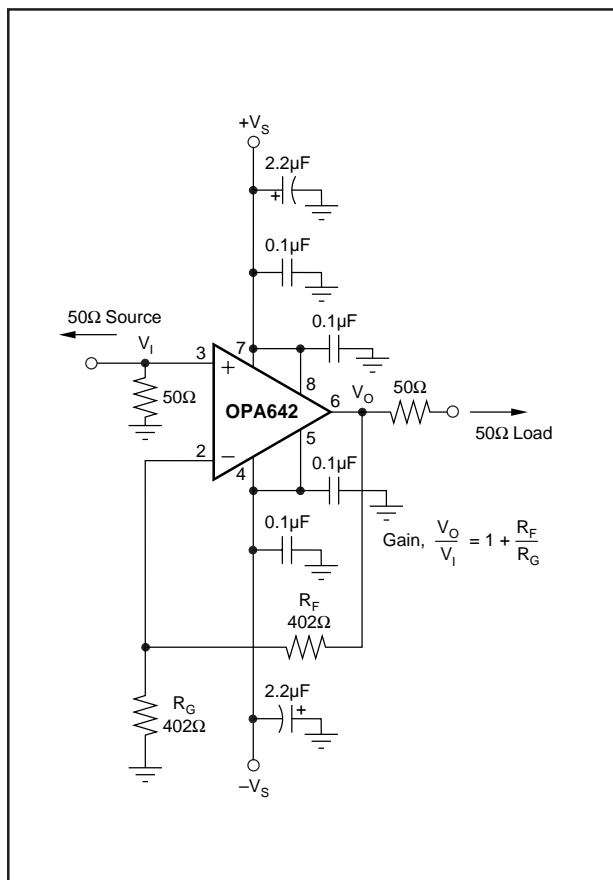
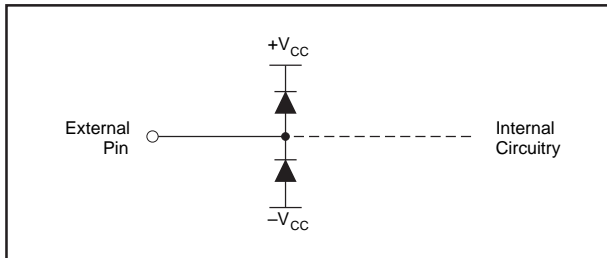

FIGURE 1. Gain of +2, High Frequency Application and Characterization Circuit [P or U Package].
FIGURE 9. Internal ESD Protection.
The OPA642's combination of speed and dynamic range is easily achieved in a wide variety of application circuits, providing that simple principles of good design practice are observed. For example, good power supply decoupling, as shown in Figure 1, is essential to achieve the lowest possible harmonic distortion and smooth frequency response. Proper PC board layout and careful component selection will maximize the performance of the OPA642 in all applications, as discussed in the remaining sections of this data sheet.
Figure 1 shows the gain of +2 configuration used as the basis for most of the Typical Performance Curves. Most of the curves were characterized using signal sources with 50Ω driving impedance, and with measurement equipment presenting 50Ω shunt load impedance. In Figure 1, the 50Ω shunt resistor at the  $V_I$  terminal matches the source impedance of the test generator, while the 50Ω series resistor at the  $V_O$  terminal provides a matching resistor for the measurement equipment load. Generally, data sheet specifications refer to the voltage swing at the output pin ( $V_O$  in Figure 1). The 100Ω load from the series and shunt matching resistances, combined with the 804Ω total feedback network load, presents the OPA642 with an effective load of approximately 90Ω.
To achieve the lowest possible distortion in the 8-pin SO-8 or DIP package, the addition of 0.1μF decoupling capacitors on pins 5 and 8 is required. These are shown in Figure 1. Although pins 5 and 8 are internally connected to pins 4 and 7 respectively (the standard supply pins for 8-pin op amps), the additional capacitors help to decouple the package lead inductances and improve second harmonic suppression at 5MHz by approximately 4dB. The much shorter bond wires and supply leads of the SOT23-5 package give the best distortion performance while requiring only two power supply connections.
is typically set up for a voltage gain of +2, compensating for the 6dB attenuation of the voltage divider formed by the series and shunt 75Ω resistors at either end of the cable. The circuit of Figure 1 applies to this requirement if all references to 50Ω resistors are replaced by 75Ω values. Often, the amplifier gain is further increased to 2.2, which recovers the additional DC loss of a typical long cable run. This change would require the gain resistor ( $R_G$ ) in Figure 1 to be reduced from 402Ω to 335Ω. In either case, both the gain flatness and the differential gain/phase performance of the OPA642 will provide exceptional results in video distribution applications. Differential Gain and Phase measure the change in overall small-signal gain and phase for the color subcarrier frequency (3.58MHz in NTSC systems) vs changes in the large-signal output level (which represents luminance information in a composite video signal). The OPA642, with the typical 150Ω load of a single matched video cable, shows less than 0.01%/0.01° differential gain/phase errors over the standard luminance range for a positive video (negative sync) signal. Similar performance would be observed for negative video signals. In practice, similar performance is achieved even with two video loads due to the linear high-frequency output impedance of the OPA642.
A good rule of thumb is to target the parallel combination of  $R_F$  and  $R_G$  (Figure 1) to be less than about  $200\Omega$ . The combined impedance  $R_F \parallel R_G$  interacts with the inverting input capacitance, placing an additional pole in the feedback network and thus a zero in the forward response. Assuming a  $2pF$  total parasitic on the inverting node, holding  $R_F \parallel R_G < 200\Omega$  will keep this pole above  $400MHz$ . By itself, this constraint implies that the feedback resistor  $R_F$  can increase to several  $k\Omega$  at high gains. This is acceptable as long as the pole formed by  $R_F$  and any parasitic capacitance appearing in parallel is kept out of the frequency range of interest.
configuration this is sum of  $R_F + R_G$ , while in the inverting configuration this is just  $R_F$  (Figure 1). Increasing output voltage swing increases harmonic distortion directly. A 6dB increase in output swing will generally increase the second harmonic 12dB and the third harmonic 18dB. Increasing the signal gain will also increase the second harmonic distortion. Again a 6dB increase in gain will increase the second and third harmonic by 6dB even with a constant output power and frequency. And finally, the distortion increases as the fundamental frequency increases due to the rolloff in the loop gain with frequency. Conversely, the distortion will improve going to lower frequencies down to the dominant open-loop pole at approximately 3kHz. Starting from the -90dBc second harmonic for 2Vp-p into 500Ω,  $G = +2$  distortion at 1MHz (from the Typical Performance Curves), the second harmonic distortion at 20kHz should be approximately  $-90\text{dB} - 20\log(1\text{MHz}/20\text{kHz}) = -124\text{dBc}$ .
Evaluating these two equations for the OPA642 circuit shown in Figure 1 will give a total output spot noise voltage of  $6.7\text{nV}/\sqrt{\text{Hz}}$  and an equivalent input spot noise voltage of  $3.35\text{nV}/\sqrt{\text{Hz}}$ .
Narrowband communications systems are more commonly concerned with the noise figure for the amplifier. The total input referred voltage noise expression (Eq. 2), may be used to calculate the noise figure. Equation 3 shows this noise figure expression using the  $E_N$  of Eq. 2 for the non-inverting configuration where the input terminating resistor  $R_T$  has been set to match the source impedance (as shown in Figure 1).
Evaluating Equation 3 for the circuit of Figure 1 gives a Noise Figure = 17.6dB. Input transformer coupling can be used to reduce this noise figure. A broadband pulse transformer can provide both a noiseless voltage gain and a more optimum source impedance to minimize the noise figure. Figure 7 shows an example built from the circuit of Figure 1, in which the transformer turns ratio has been set to the
The OPA642 can provide excellent DC signal accuracy due to its high open-loop gain, high common-mode rejection, high power supply rejection, and low input offset voltage and bias current offset errors. The high grade (B) version of any package type provides less than 1mV input offset voltage. To take full advantage of this low input offset voltage, a careful attention to input bias current cancellation is also required. The high speed input stage for the OPA642 has a relatively high input bias current (25μA typ into the pins) but with a very close match between the two input currents—typically 100nA input offset current. The total output offset voltage may be considerably reduced by matching the source impedances looking out of the two inputs. For example, one way to add bias current cancellation to the circuit of Figure 1 would be to insert a 175Ω series resistor into the non-inverting input from the 50Ω terminating resistor. When the 50Ω source resistor is DC coupled, this will increase the source impedance for the non-inverting input bias current to 200Ω. Since this is now equal to the impedance looking out of the inverting input ( $R_F \parallel R_G$ ), the circuit will cancel the gains for the bias currents to the output leaving only the offset current times the feedback resistor as a residual DC error term at the output. Using a 402Ω feedback resistor, this output error will now be less than  $3\mu\text{A} \cdot 402\Omega = 1.2\text{mV}$ .
As a worst case example, compute the maximum  $T_J$  using an OPA642N (SOT23-5 package) in the circuit of Figure 1 operating at the maximum specified ambient temperature of +85°C.  $P_D = 10V \cdot 26mA + 5^2 / (4 \cdot (100\Omega \parallel 804\Omega)) = 330mW$ . Maximum  $T_J = +85^\circ C + 0.33W \cdot 150^\circ C/W = 135^\circ C$ .
The OPA642 is built using a very high speed complementary bipolar process. The internal junction breakdown voltages are relatively low due to these very small geometry devices. These breakdowns are reflected in the Absolute Maximum Rating table. All device pins are protected with internal ESD protection diodes to the power supplies as shown in Figure 9.
High input overdrive signals can also cause significant differential voltage between the + and - inputs. Where this voltage can exceed the maximum rated voltage of  $\pm 1.2V$ , external Schottky protection diodes should be added across the two inputs. Again, the capacitance added by these diodes can degrade the noise and AC performance and should be used only where necessary. Figure 9 shows a fully featured input protection circuit for the OPA642. This is the circuit of Figure 1 with additional limiting resistors into the inputs and Schottky clamp diodes across the inputs. These resistor values have been selected to limit the degradation in noise and frequency response, achieve DC bias current cancellation, and limit the current that will flow under overdrive conditions.